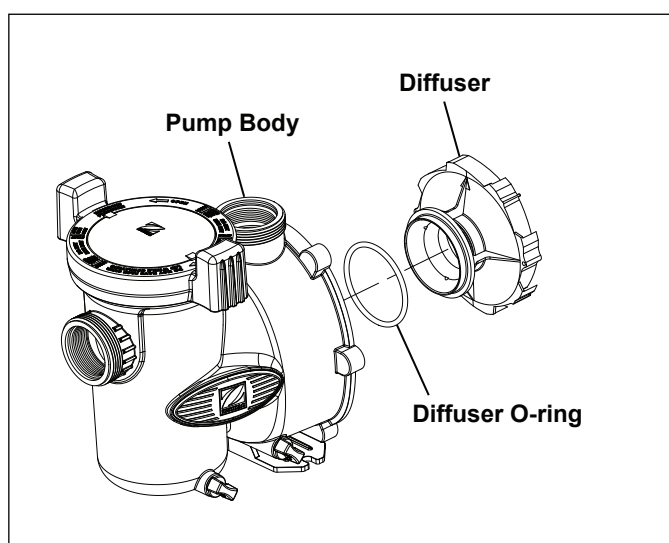

Figure 11. Pump Body and Diffuser Exploded View
5. Replace the two (2) small Phillips-head screws. Tighten the screws to draw the diffuser against the motor backplate. Install the impeller sleeve on the impeller.
6. To help prevent an airleak into the system, make sure the diffuser o-ring, o-ring groove, and o-ring seal area are clean and free of debris. If you removed the diffuser o-ring, make sure you install it into the groove you removed it from. (See Figure 11). If grease is used to retain the o-ring, it **must** be silicone based. **Do not use petroleum-based grease.** It will destroy the o-ring.
7. Slide the diffuser into the mating hole in the pump body. While supporting the motor, start two (2) screws on opposite sides. (This will hold the motor in position while you start the other four (4) screws.)
8. Tighten the screws lightly in a crossing “X” pattern using a 9/16” wrench. Start with the inner (middle) two (2), then the outer (top and bottom) four (4) to draw the backplate to the body in an even manner. Once all the screws are snug, torque in the same order to 27 Nm.